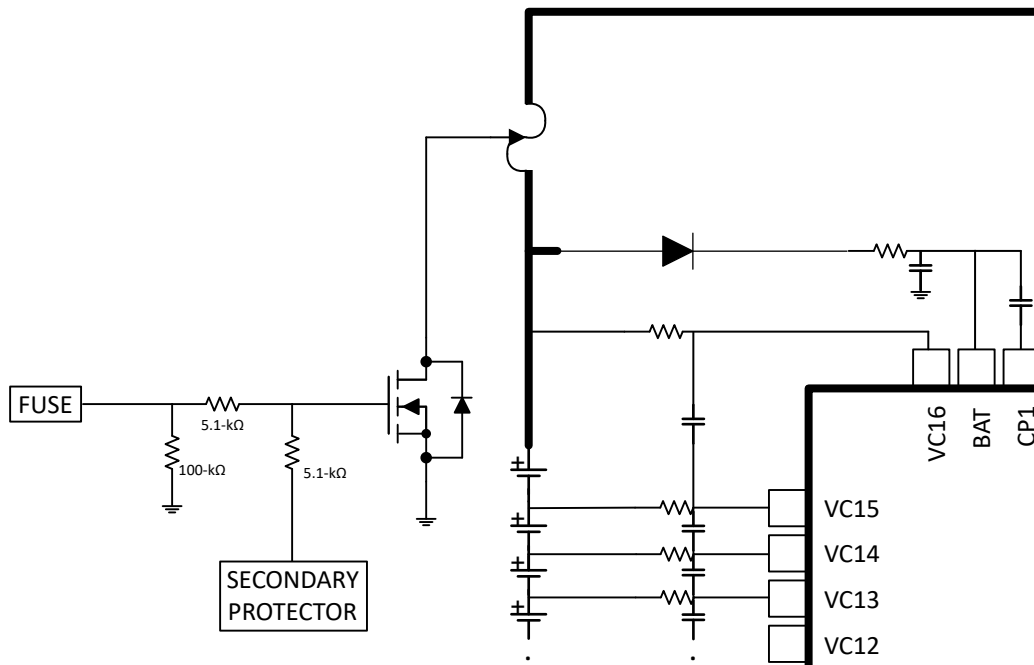

Figure 6-1. FUSE Pin Operation
The FUSE pin on the BQ76952 device can be used to blow a chemical fuse in the presence of a Permanent Fail (PF), as well as to detect if an external secondary protector in the system has detected a fault and is attempting to blow the fuse itself. The pin is intended to drive the gate of an NFET, which can be combined with the drive from an external secondary protector, as shown in Figure 6-1. When the FUSE pin is not being asserted by the BQ76952 device, it remains in a high-impedance state and will detect a voltage applied at the pin by a secondary protector. If the Second Level Protector PF is enabled (using the **Settings:Permanent Failure:Enabled PF B[2LVL]** and **Settings:Manufacturing:Mfg Status Init[PF_EN]** configuration bits), a PF will be generated if the device detects a high signal at the FUSE pin.